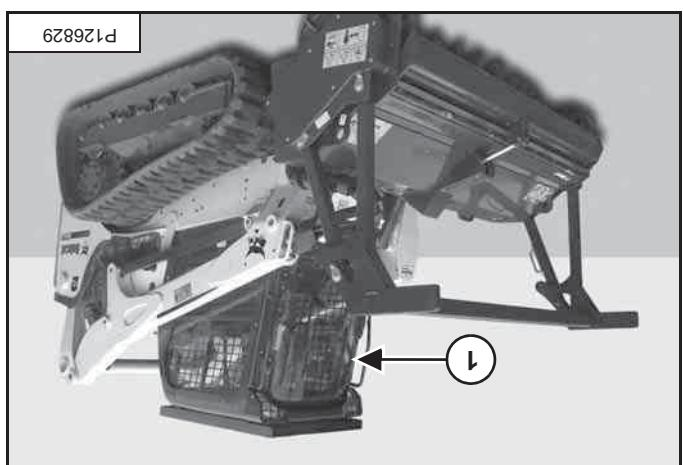

Figure 90
Close the forestry door (item 1) [Figure 90].